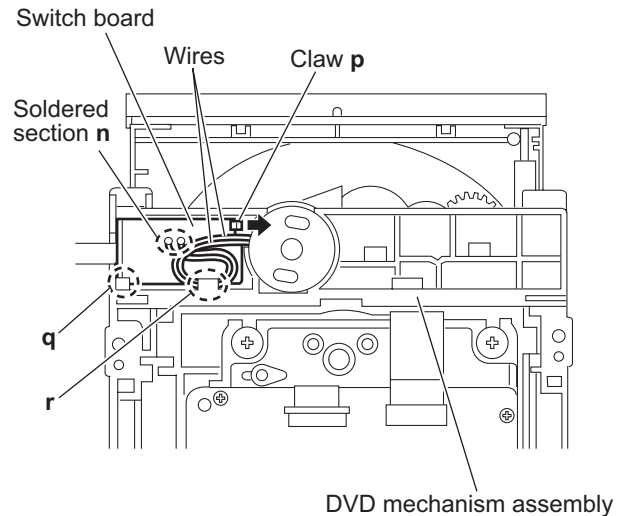

Fig.14
(See Fig.14.)
(See Figs.14 and 15)
- (1) From the bottom side of the DVD mechanism assembly, remove the wires from the soldered section **n** on the switch board. (See Fig.14.)
Put the wires on the section **r** after attaching the motor to the DVD mechanism assembly. (See Fig.14.)